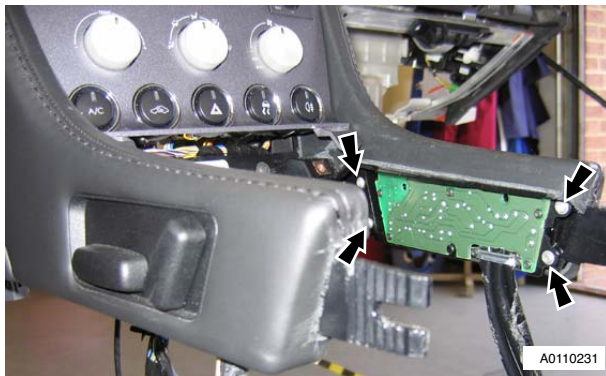

Figure 1
12. Remove seat adjust switch (screws x4) (see Figure 1).